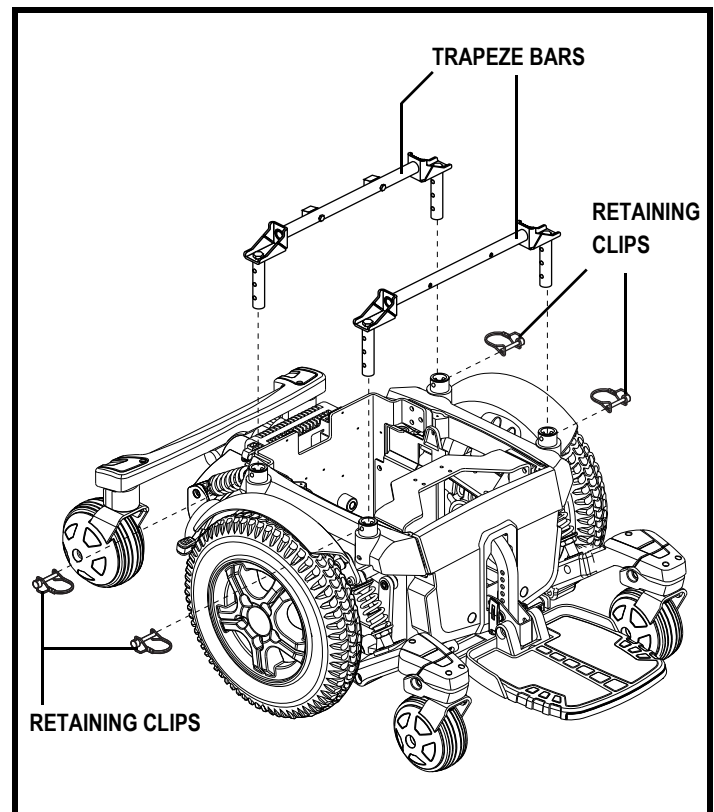

Figure 16. Seat Height/Angle Adjustment
8. Remove the retaining clips that attach the trapeze bars to the seat posts. **See figure 16.**